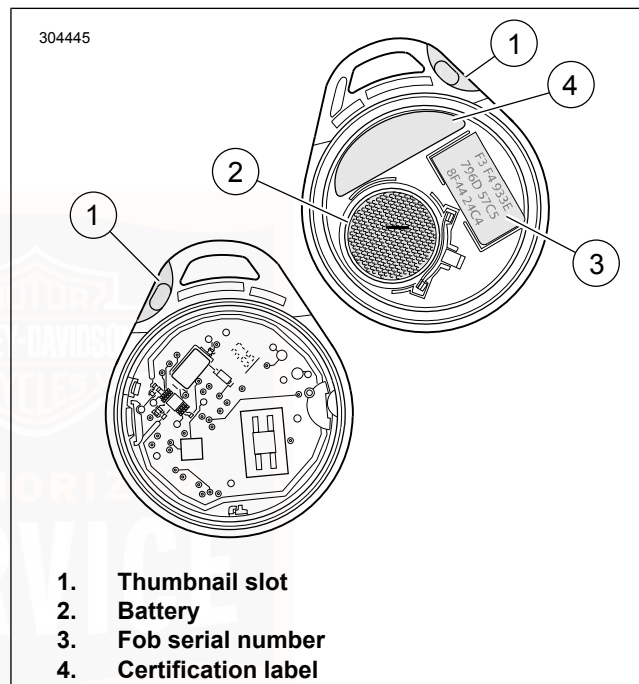

Figure 15. Fob Battery
- See Figure 15. The serial number of the fob is also found on the inside of the fob.
1. See Figure 15. To open the fob, turn a thin blade in the slot (1).
2. Remove the battery (2) and discard in accordance with local regulations.